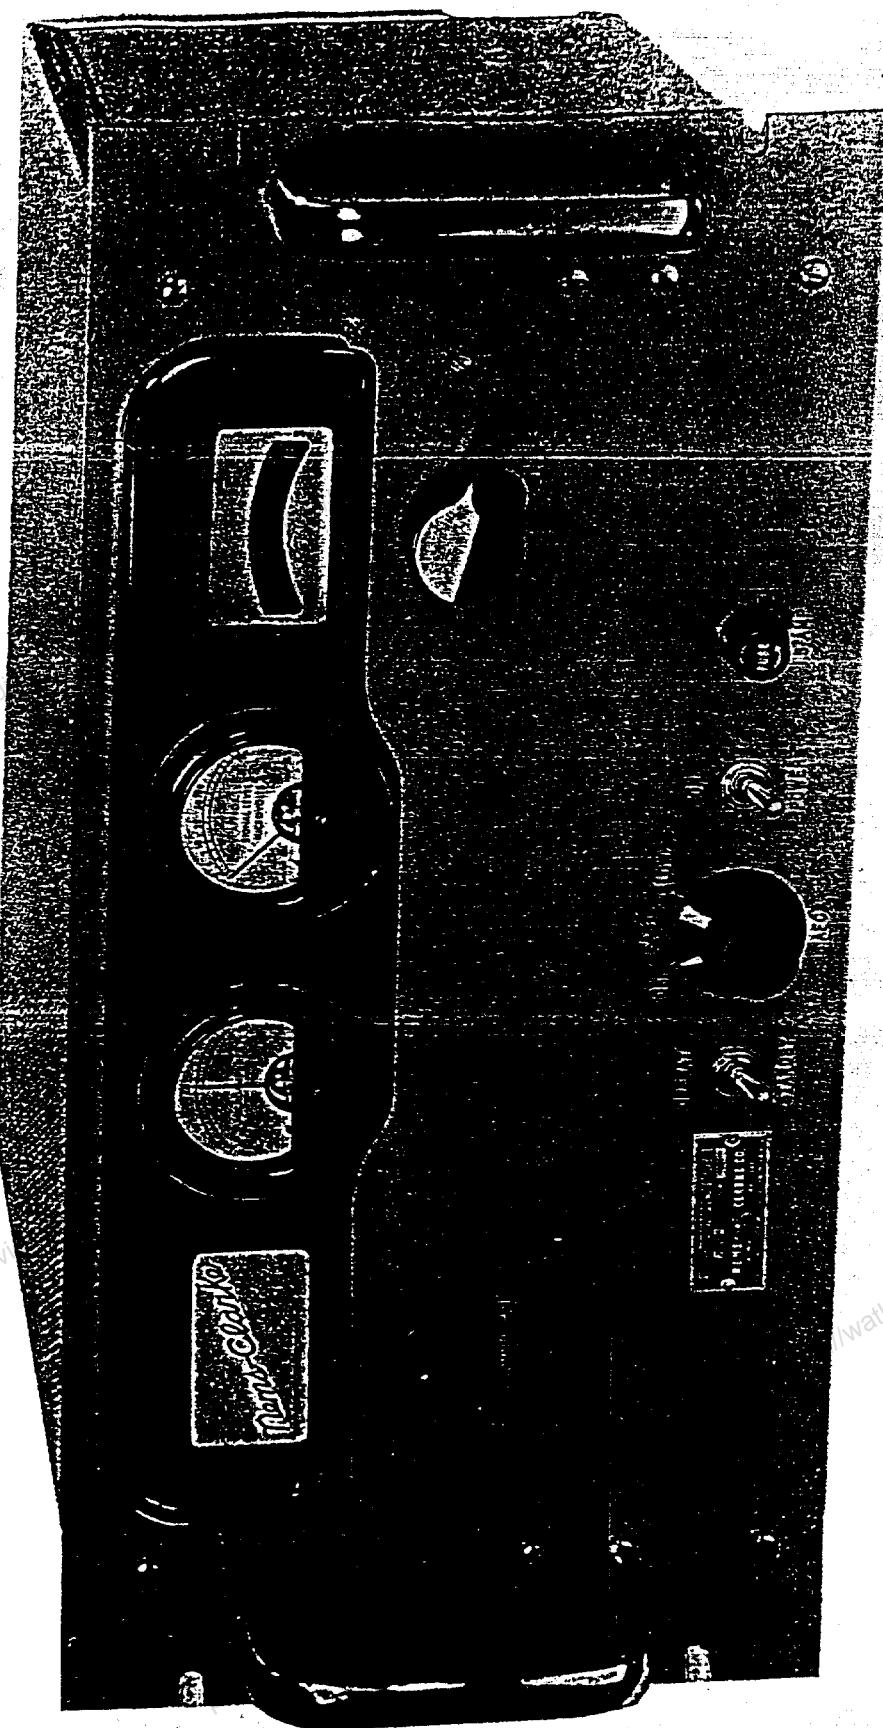

Figure 1. Special Purpose Receivers, Models 1671, 1672, 1673, and 1674.
A. The front panel of the receiver, Figure 1, has a bezel centered above the center line containing, in left to right order, the speaker screen, a tuning meter, a signal level meter, and the tuning dial mask. The audio gain control knob is mounted directly below the speaker screen at the left, and the vernier-type tuning dial crank-knob is mounted directly below the tuning dial mask on the right. At the bottom of the panel are the OPERATE-and-STANDBY switch, the automatic frequency control knob, AFC, the POWER switch, and the fuse holder.